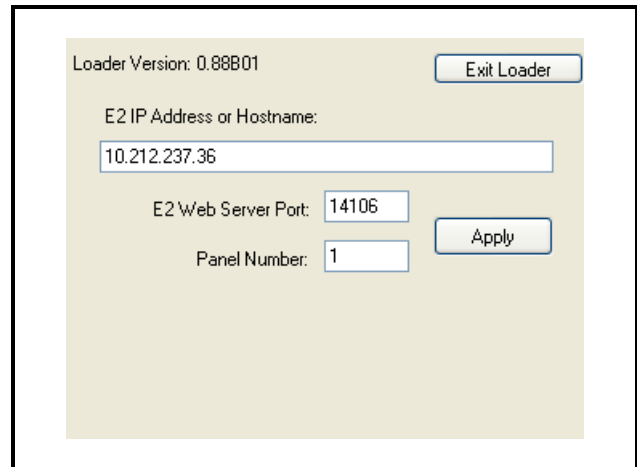

Figure 3-6 - Second Boot Loader/Startup Screen
- On the second boot loader screen, (**Figure 3-6**) enter the IP Address or Hostname of the E2 that the FSD will be communicating with. (If using a Hostname for E2 instead of an IP Address, contact your IT administrator for the Hostname.)